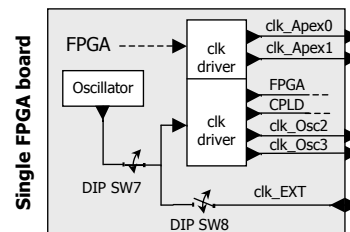

Figure 23 : Clock signal connections in Single FPGA board configuration
- **Single FPGA board mode.** (cf. figure 23) The oscillator drives the devices on the board through the clock driver. The CLK_EXT pin is unconnected. Switches configuration: